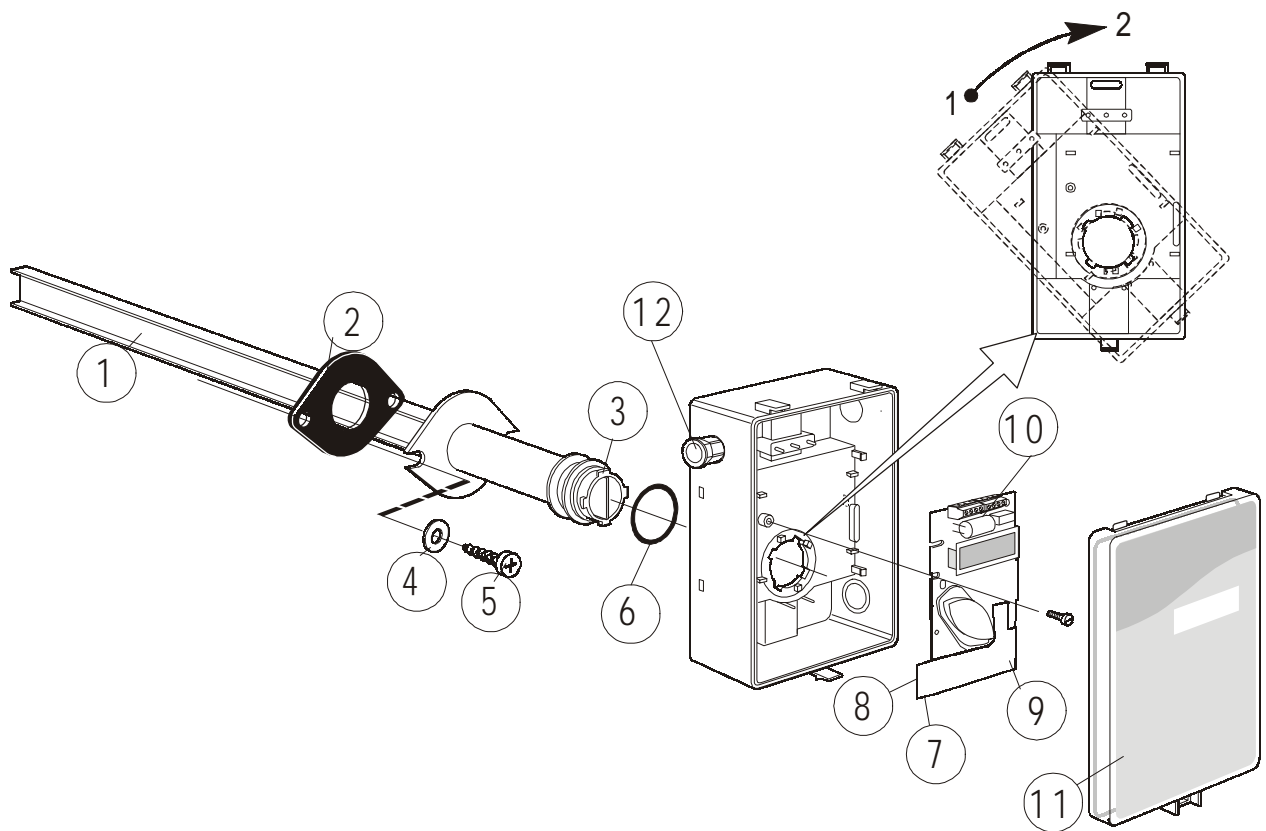

Fig. 1
- 2) **Mounting the tube.** Drill a hole (12) with 25 mm diameter (or 1 inch) for the sampling probe and two holes with 4 mm diameter for the screws (5) into the air duct and mount the tube (1) with the gasket (2). The sampling probe should be mounted with the largest locking nob on top. The unit can be mounted with the air coming from the left or right.
- 3) **Attaching the sensor box** is made to the sampling probe by a snap-in bayonet fitting. Orient the box onto the sampling probe so that the box upside is on the same side as the largest locking nob (3). When the probe is fitted into the notches of the box, then turn the box clockwise until stop (see Figure 1). Position 1 indicates *open* where the box can be removed from the sampling probe. In position 2 the box is locked to the probe.